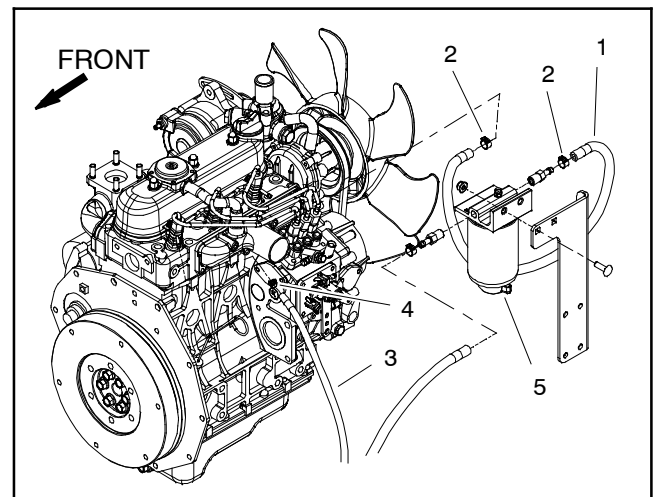

Figure 11
B. Disconnect fuel supply and return hoses from engine (Fig. 11).
8. Insert cap screw down through each engine mount bracket and mount. Place spacer, snubbing washer and then flange nut on four (4) cap screws. Tighten fasteners to secure engine to engine mounts.
A. Connect fuel supply and fuel return hoses to engine fittings (Fig. 11). Secure fuel hoses with hose clamps.